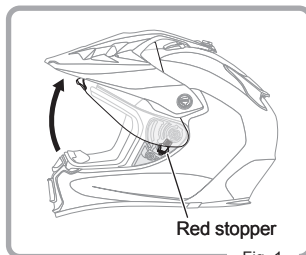

Fig. 1
1. Fully open the shield (Fig. 1)